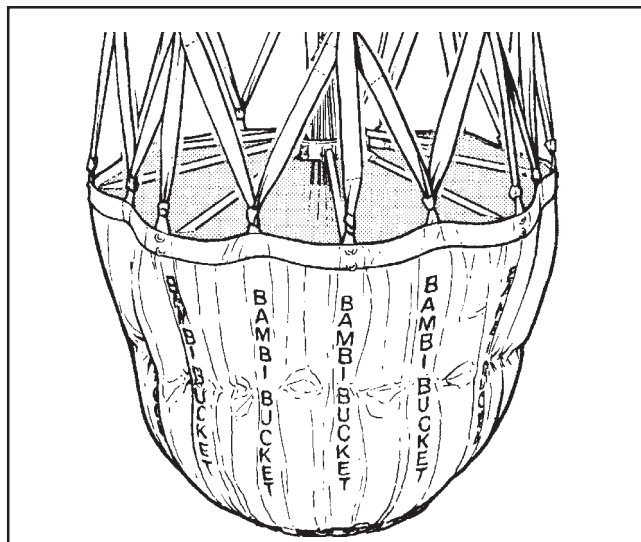

Fig. 8: Bambi Bucket cinched in with the FCAS.
The Frusto-Conical Arrest System (FCAS) allows the pilot to reduce the volume of the bucket to a preset position. The FCAS is composed of a cinch strap on the inside or outside of the bucket. The cinch strap is marked with one or more load levels. The illustration in Fig. 8 shows a Bambi Bucket with volume reduced by cinching in the bucket with the cinch strap. The cinch strap allows you to reduce the volume of the bucket to lower levels than can be done by straight fill speed alone.
- 3) Gather the suspension lines into a coil and stow inside the bucket as shown in Fig.8. Placing the control head outside and the lines inside prevents the possibility of the lines tangling.